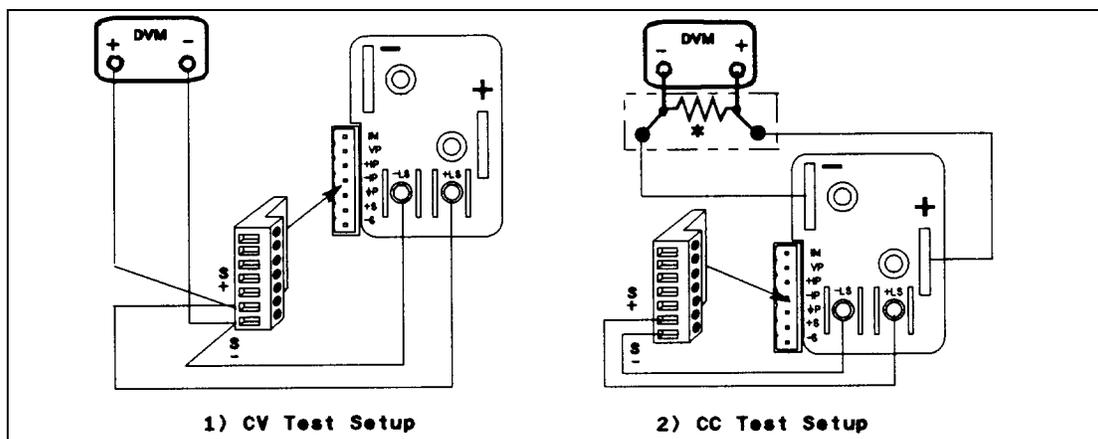

Figure C-1. Verification Test Setup
Figure C-1 shows the setup for the tests. Be certain to use load leads of sufficient wire gauge to carry the output current (see Table 8-1). To avoid noise pickup, use coaxial cable or shielded pairs for the test leads.
This test verifies that the voltage programming, GPIB readback, and front panel display functions are within specifications. Figure C-1(1) shows the setup for the tests. Measure the dc output voltage directly at the sense connections of the output terminals or bus bars. Connect the output as shown.
| 1 | Turn off the power supply and connect a DVM across the sense terminals (see Figure C-1(1)). | |
This test verifies that the current programming and readback are within specification. Connect the appropriate current monitoring resistor (see Table C-1) as shown in Figure C-1(2). The accuracy of the resistor must be as specified in the table.
| 1 | Turn off the power supply and connect the current monitoring resistor as shown in Figure C-1(2). Be certain to use wire of sufficient size to carry the maximum rated current of the unit (see Table 7-1 in Chapter 7). | |